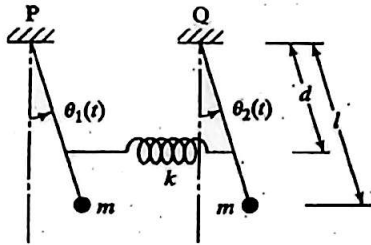

FIGURE 5.27
5.27 Two identical pendulums, each with mass  $m$  and length  $l$ , are connected by a spring of stiffness  $k$  at a distance  $d$  from the fixed end, as shown in Fig. 5.27.